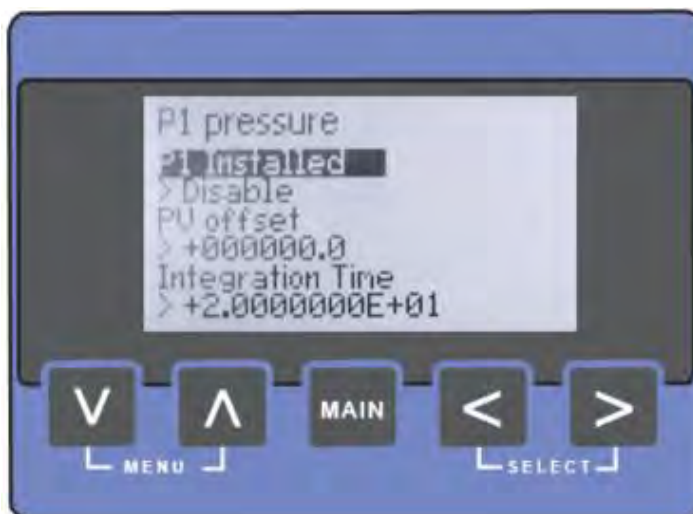

FIGURE 4-30 The entity list screen
- On selection of an available function, the [\[entity list\]](#) screen is presented (see FIGURE 4-30). You can *navigate through the entity list* by using the up or down button. An entity can be selected by simultaneously pressing the left + right button. You can return to the [\[function list\]](#) screen by pressing the left button.